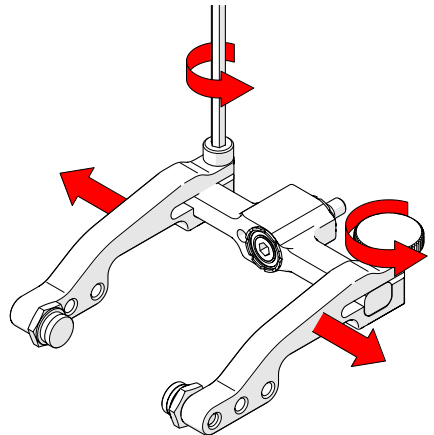

Fig. 93 - Remove arms
2. Loosen the probe holder arm adjustment knob and arm clamp screw. Slide the arms from the yoke (*Fig. 93*).